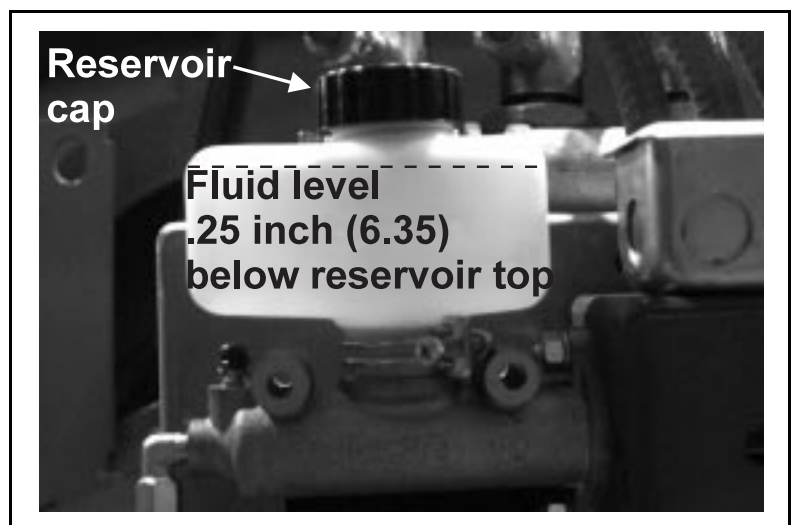

FIGURE 1 (MSSMA426AE)
1. Check fluid level in reservoir—If required, add fluid to within .25 inch (6.35) of the top (FIGURE 1). Add only D.O.T. 3 type brake fluid. *Never mix brake fluid with any other type of fluid.*
NOTE 3: Refer to FIGURES 1 through 4.